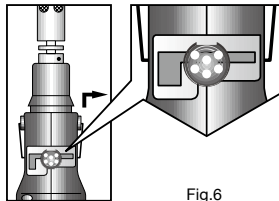

Fig.6
- The tip temperature can be adjusted by turning the **ON/OFF Gas Control Lever** left or right. (Fig. 6)